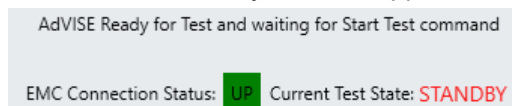

Figure 5-27: Example of messages in the lower status bar
- "New state" messages (top line in Figure 5-27):